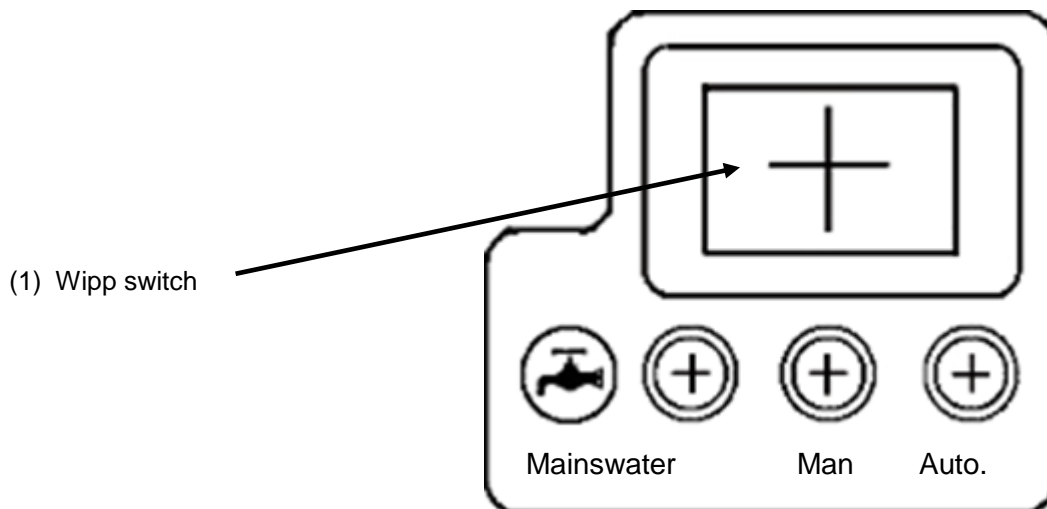

Fig. 1 (Control panel)
4. Operation of control element (see figure 1 below)